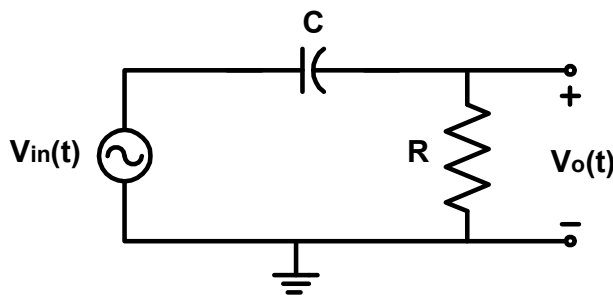

Fig. 2A. First order high pass filter (integrator)
1. For the circuit shown in Fig. 2A, derive the transfer function for v_o/v_{in} in terms of R , C and $j\omega$, and find the expressions for the magnitude and phase responses. Express your results in the form
2. Build the RC high pass circuit shown in Fig. 2A using the R and C values designed in the pre-laboratory exercise. Obtain the frequency response of the filter using the bode analyzer SFP as shown in part C.